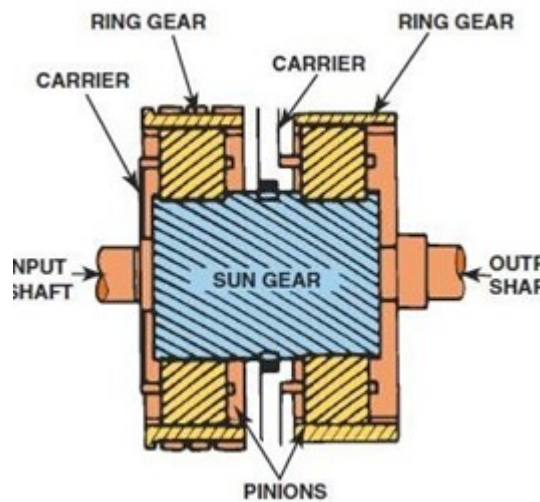

Figure 28
- **Simpson.** As shown in Figure 28, there is one common sun gear, two sets of planets, and two ring gears. This type was used in the three-speed transmission era.